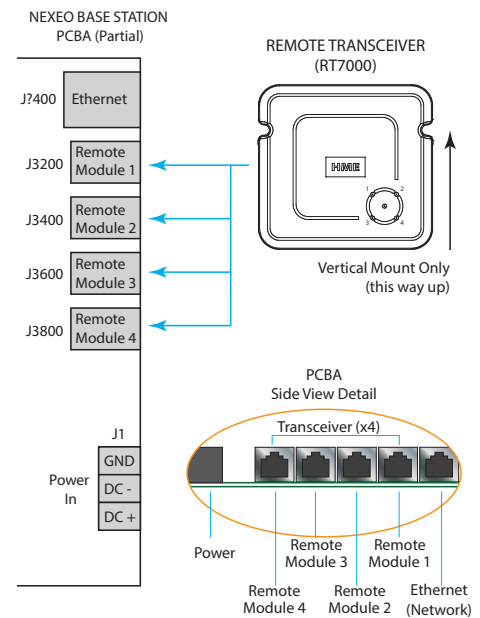

Fig. 4.4
- Mount the transceiver vertically on a wall in the upright position (see Fig. 4.4 and orientation arrow on the RT7000 rear). Do **NOT** mount horizontally, such as on a ceiling; this will severely reduce the transceiver's range.